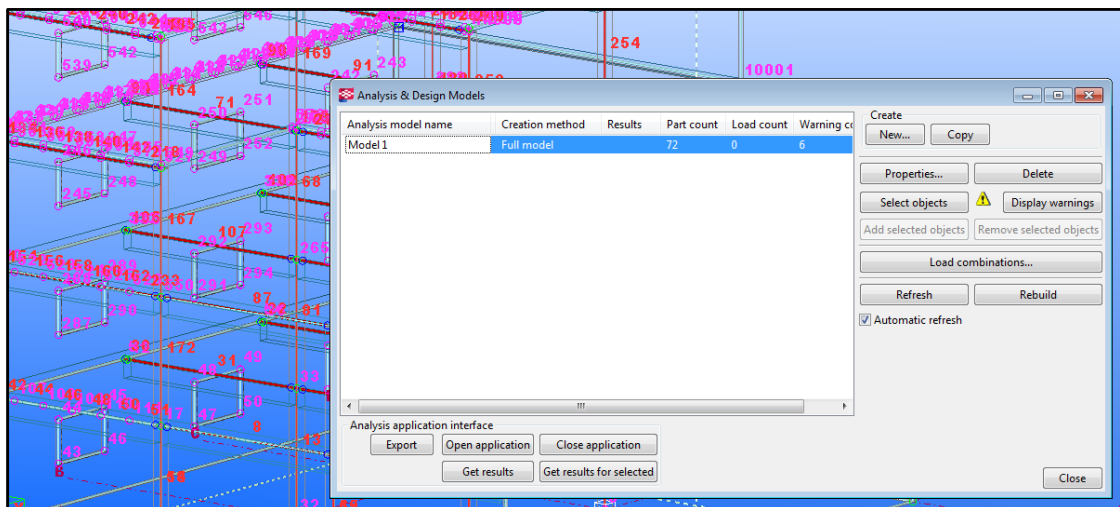

Figure 3-4
e. Press OK. An analysis model will be constructed and listed in the *Analysis & Design Models* dialog as shown in Figure 3-4.